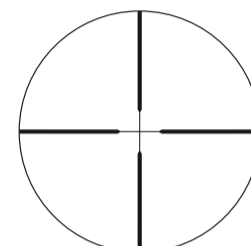
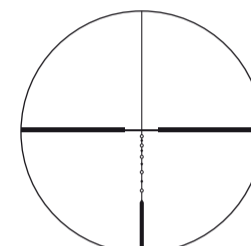

Fig.3-1
Fig.3-2
- Look through the eyepiece with your eye positioned about 4 inches (10 cm) away from the eyepiece lens to see the Nikoplex Reticle (Fig. 3-1) or the BDC 600 Reticle (Fig. 3-2) depending on your purchased product. Be sure your eye is positioned within proper alignment and proper eye relief, otherwise the view will "black out".